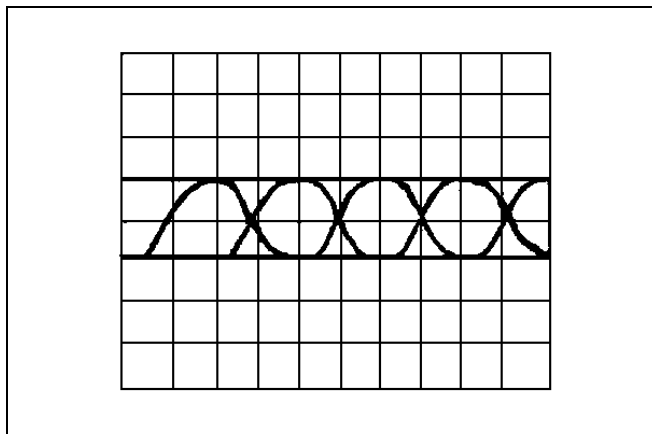

Figure 3 - High-Speed Data Eye Pattern
1. Input a companion radio high-speed dotting data TX output in the antenna port at 25 milliwatts. Verify an optimum receive eye pattern on the VOL/SQ HI line at J705-3. A typical Eye Pattern is shown in Figure 3.